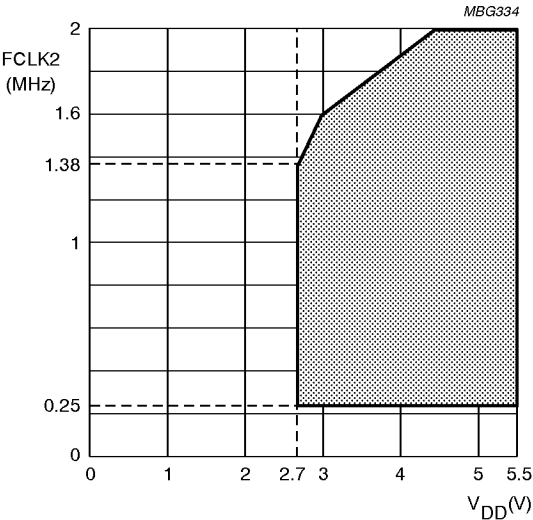

Fig.14 ADC clock (FCLK2) frequency range as a function of V_{DD}.
4. See Fig. 14 for specific FCLK2 range as function of V_{DD} .